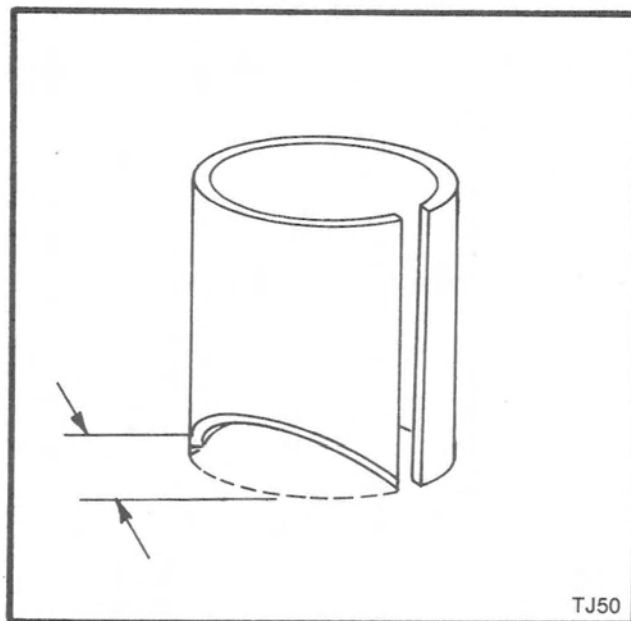

Figure 50
B. Slide Figure 50
The slide controls fuel mixture between 0 & $\frac{1}{2}$ throttle. The use of the throttle valve with different size cut-aways will control the discharge rate of fuel which affects the fuel air ratio. The largest throttle valve cutaway number provides a leaner mixture. This is only effective within the lower range of throttle opening and has no effect above one half throttle opening. (Figure 50)